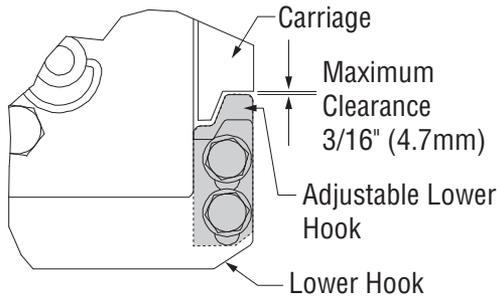

Figure 4-6, Lower Hook Clearance
6. Measure gap between the top of the adjustable lower hook and the lower carriage bar (Figure 4-6). Gap should not exceed 3/16" (4.7 mm). Adjust the gap by loosening the bolts holding the adjustable lower hook to the rear of the lower hook. Tighten the bolts to the torque stated on page 18. Repeat for opposite side.
12. Completely retract faceplate and check lower hook clearance (Figure 4-6). Reset as necessary to meet stated clearance.
12. If quick hooks are used instead of bolt-on hooks, make sure the truck carriage allows the slide plate (see Figure 4-6) to be raised high enough to click into place. Slide plate must click into place. Contact factory (800-285-7000) if the slide plate does not click into place.
If the attachment is equipped with quick change hooks (button-type), press the slide plate release button and drop the slide plate down (Figure 4-6).